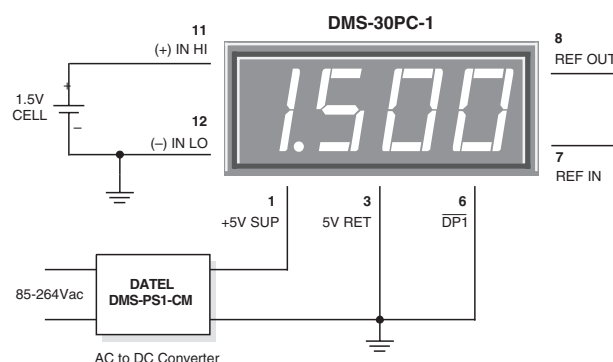

Figure 5. Floating Input Measurements
- 4. Floating Signal Source Measurements:** Floating signals can be measured using the circuits shown in Figures 5 and 6. Connecting